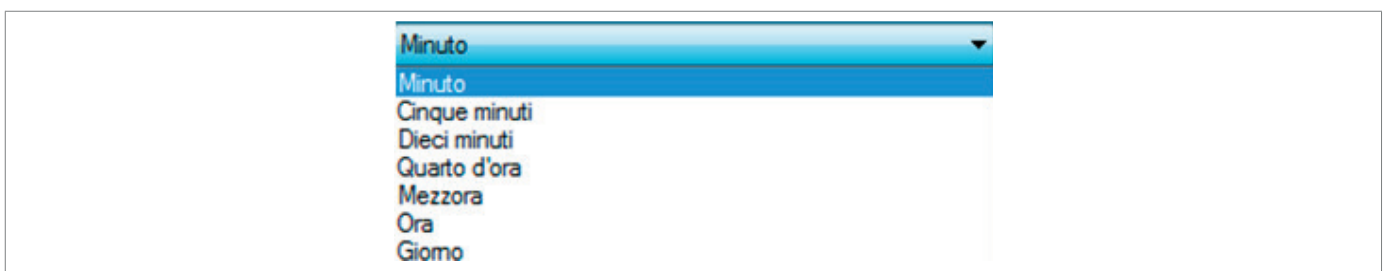

Fig. 8.84. Logging frequency
- Logging frequency: This is to set how often samples are saved to the log file. You must choose from the options shown in Fig.8.84: